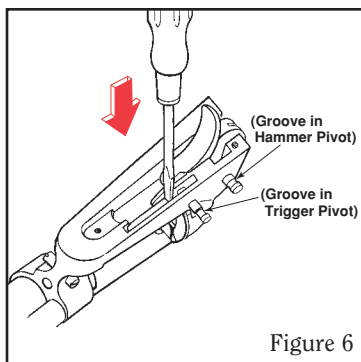

Figure 6
6. Remove the trigger pivot (pin) as follows: using a screwdriver as shown in Figure 6, p. 24, depress the gate detent spring so that the end of the spring which rests in one groove of the trigger pivot is free of the groove. Then, use a drift and hammer to push the pivot completely out of the frame.
2. (Refer to Figure 6, p. 24). Align hammer in frame and insert hammer pivot with the grooved end of the pivot on the gate side of the frame. (The long screw, XR01901, when inserted on the gate side, will intersect the groove and lock the pivot in place. See step number 11, p. 26).
4. (Refer to Figure 6, p. 24). Depress the upper arm of the gate detent spring with the tip of the screwdriver blade and install the trigger pivot. Pivot should be inserted from the gate side of the frame. The non-grooved end of the pivot should be inserted first. (It may be necessary to manipulate the trigger, the gate detent spring and the cylinder latch to align them to receive the trigger pivot).